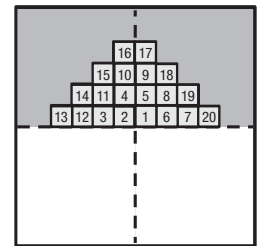

Figure 3
After determining the layout and snapping center line, spread adhesive and install flooring as outlined below using the dry to touch or wet-set application method. (See Figure 3)
**Pressure Sensitive (dry-to-touch) Applications:** Lay tiles from the center of the room in a pyramid fashion while working towards the walls as shown in Figure 3. The dry, tacky adhesive makes it possible to work on top of the material without compromising the installation.